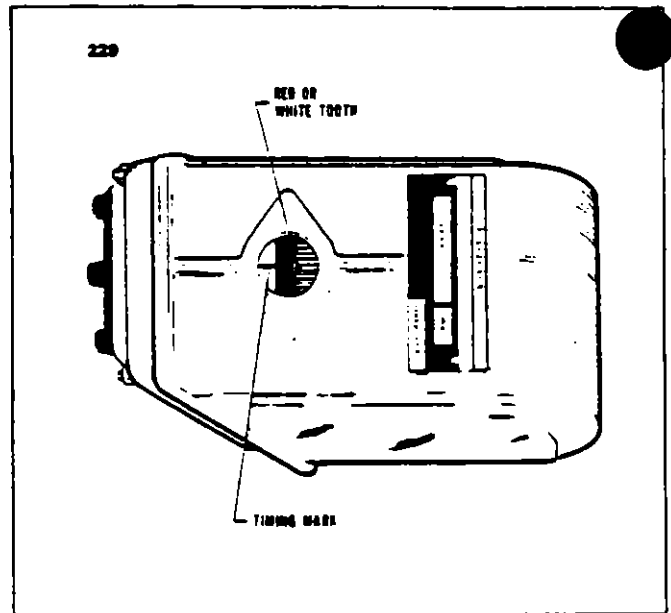

FIGURE 7C-15. MAGNETO TIMING MARKS
b. Continue turning the crankshaft until the 25° advance timing mark is in alignment with the small hole located on the top face of the starter housing at the two o'clock position. (Refer to Figure 7C-14 )